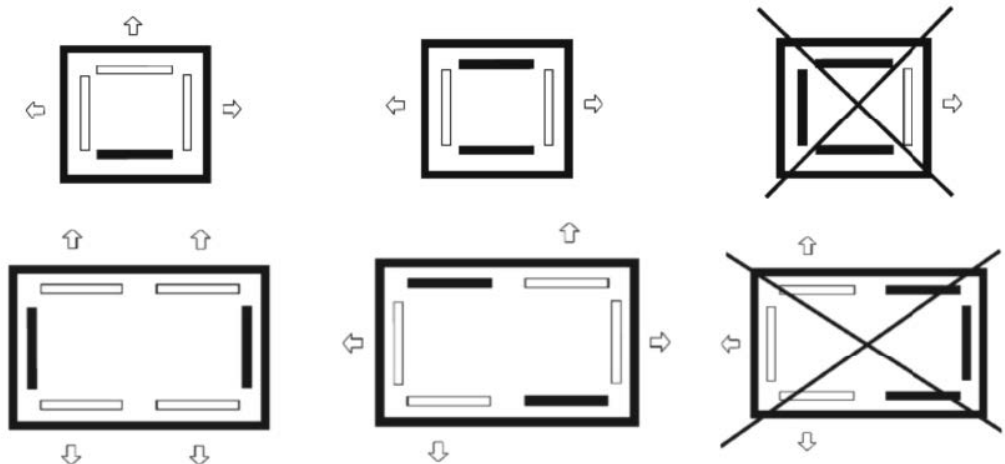

Figure 6: Blowing air outlets
- The unit must be installed in the room so that it allows free air circulation in the unit. The unit has four (sizes 20-80) or six (sizes 100-160) blowing outlets that contain air deflectors for directing the blowing air or for closing some of the outlets, if necessary. The maximum number of closed blowing outlets is shown in *Figure 6: Blowing air outlets.*